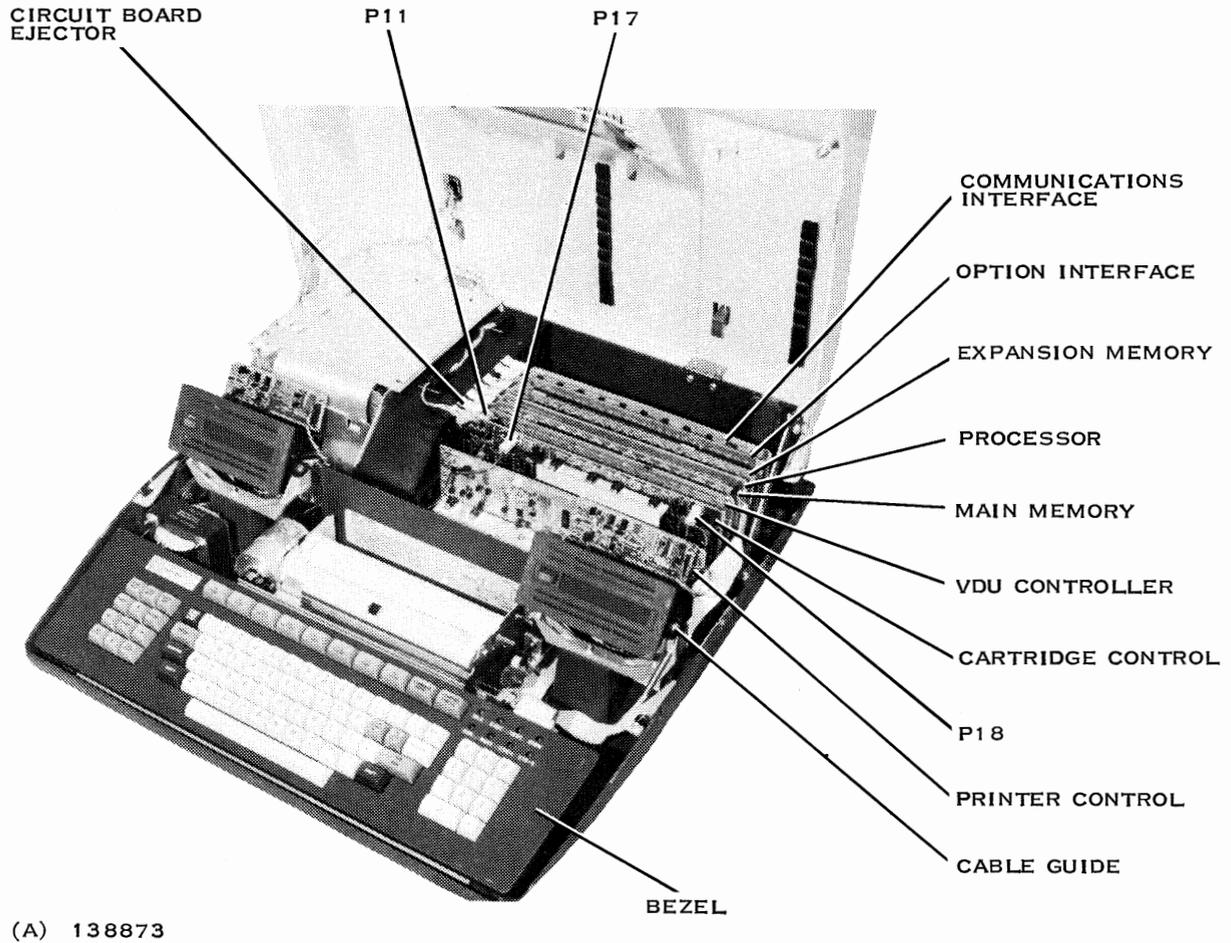

Figure 1-4. Circuit Board Locations in Model 770 Intelligent Data Terminal
7. Remove optional printer control board, part number 0993038-0001, from slot A1 in front of the red mark (see figure 1-4), if so equipped. This board will be reinserted during DS990/1 assembly.